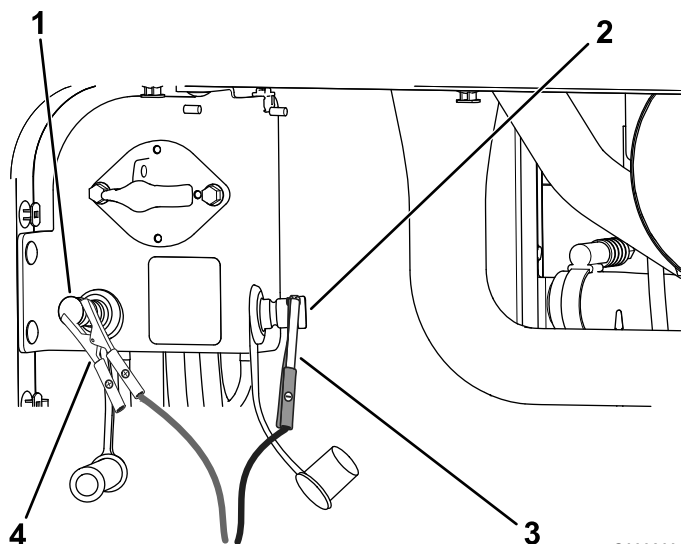

Figure 111
4. Connect the positive (+) jumper cable to the positive jump post (Figure 111).
5. Connect the negative (-) jumper cable to the negative jump post (Figure 111).
7. When the engine starts, have the other person disconnect the negative (-) jumper cable from the negative jump post and then disconnect the positive (+) jumper cable (Figure 111).